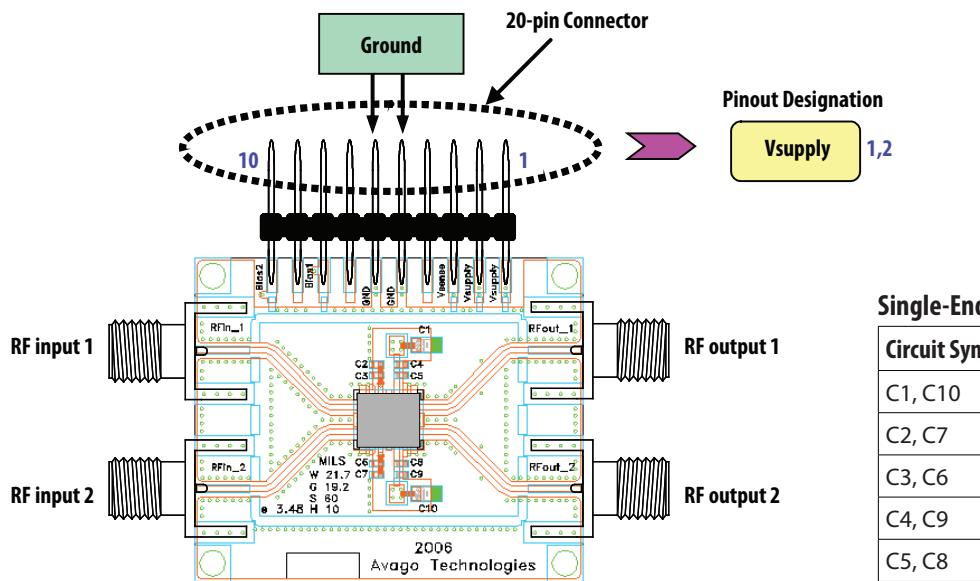

Figure 5. Evaluation Board Layout Diagram
$T_A = 25^\circ\text{C}$, $V_{dd} = 5\text{V}$, $V_{ctrl} = 2.7\text{V}$, RF performance at 900 MHz, given for each of the 2 RF paths, measured on evaluation board (see Fig. 5) unless otherwise specified.
6. Measurement at 900MHz obtained using demo board described in Figure 5.
Vdd = 5V, Vctrl = 2.7V, Frequency = 900 MHz, measured on evaluation board (see Figure 5) unless otherwise specified.